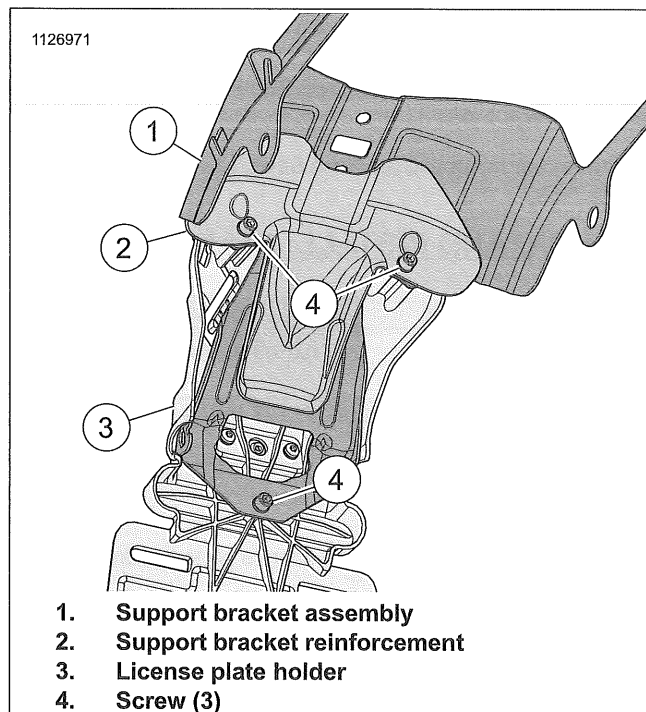

Figure 3-130. License Plate Support Assembly
3. See Figure 3-130. Remove center mount licence plate holder.
- a. Remove screws (4).
- b. Disassemble license plate holder (3), support bracket assembly (1) and support bracket reinforcement (2).
1. See Figure 3-130. Install center mount licence plate holder.
- a. Assemble license plate holder (3), support bracket assembly (1) and support bracket reinforcement (2).
- b. Install screws (4). Tighten.